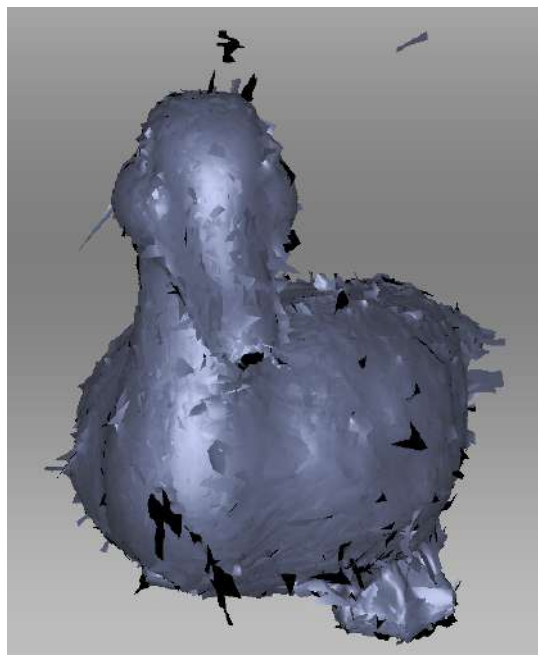

Figure 89: Alignment result.
4. Click *Align...* to run the alignment with your specified restrictions (Figure 89 shows example results). If you are dissatisfied with the alignment results, click ↺ and specify additional point sets, or reposition the current sets. To redo an operation that you have undone, click ↻.